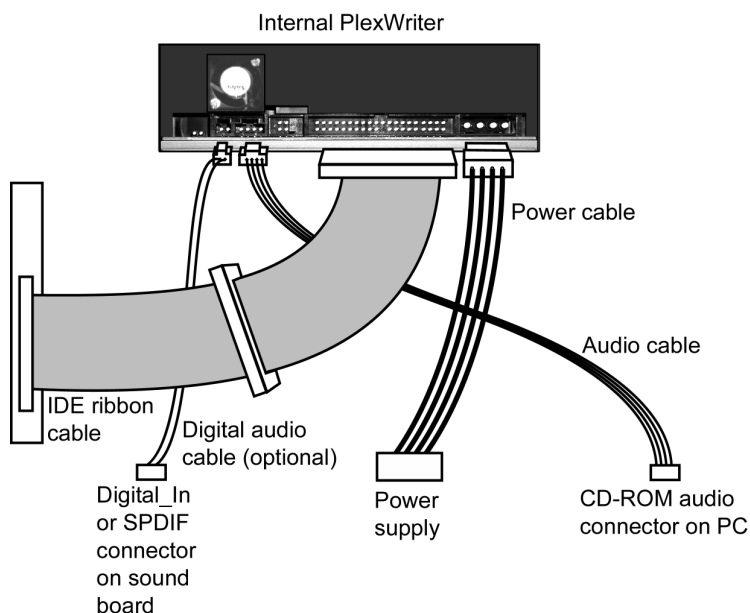

Figure 12: Power and IDE Connections for an Internal PlexWriter Drive
9. Connect a power cable from the computer to the DC INPUT connector of the PlexWriter drive. (See Figure 12.) In most computers, you will find free power connectors that are ready for your use.